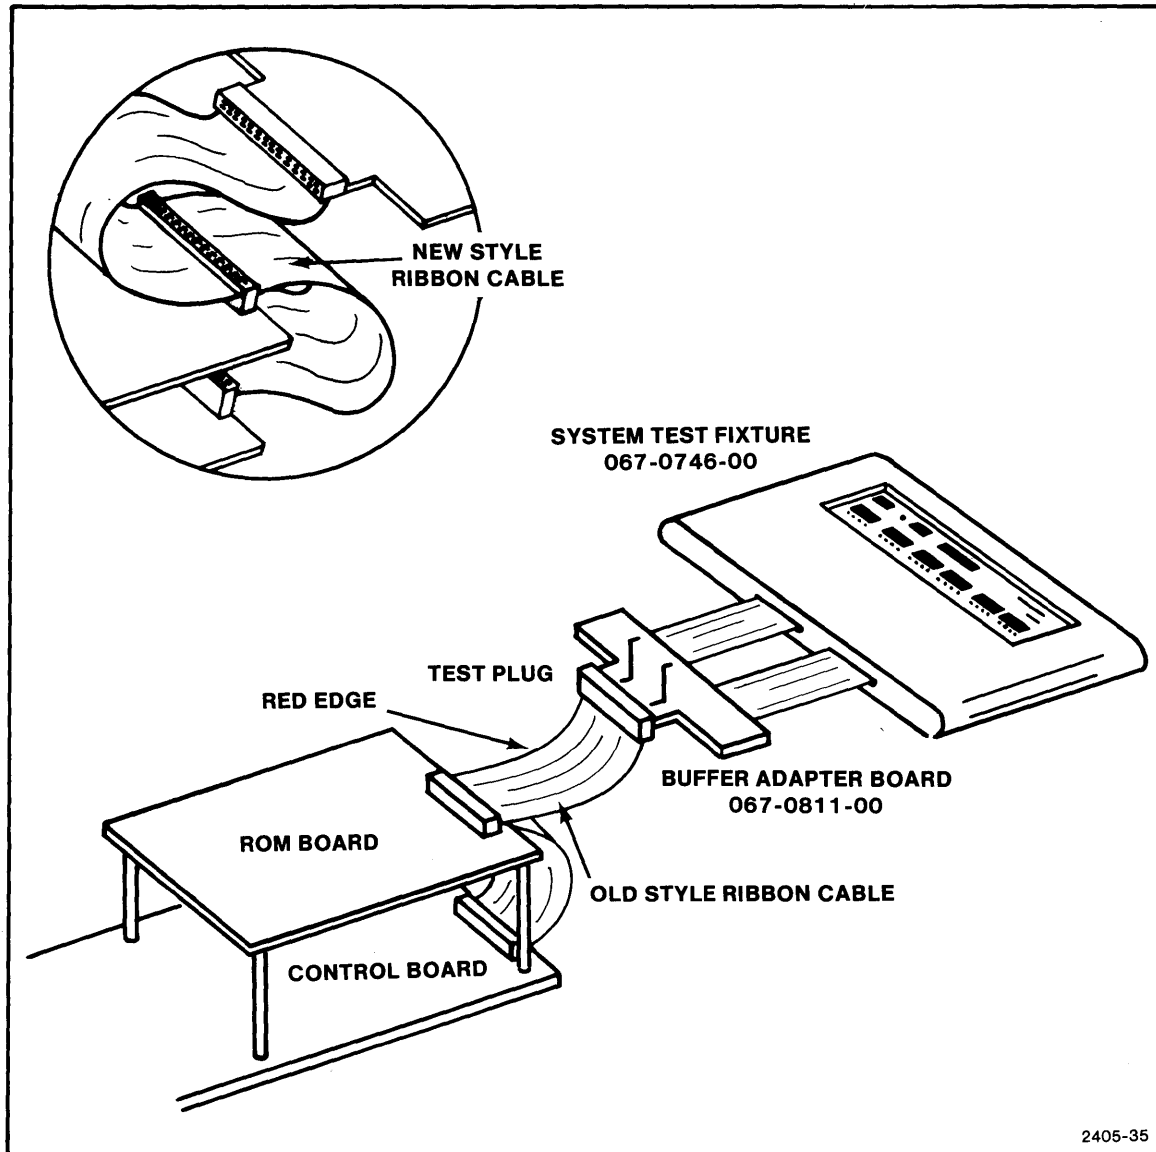

Figure 5-1. System Test Fixture connection.
The following RAM and ROM Tests use the Tektronix 067-0746-00 6800 System Test Fixture. This test fixture connects to a special Buffer Adapter Board (061-0811-00). The 50 pin jack on the Buffer Board mates with the free hanging plug on the ROM Board to Control Board Ribbon Calls. See Figure 5-1.
2. Connect the System Test Fixture to the 4907 as in Figure 5-1.